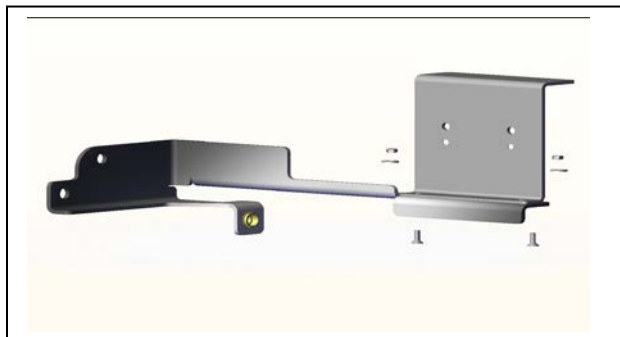

Figure 45
1. Pre-assemble the Z shaped bracket to the larger wireless bracket. Use the shorter 12mm screws and standard M4 hex nuts to attach. (See Figure 45 & 46.)